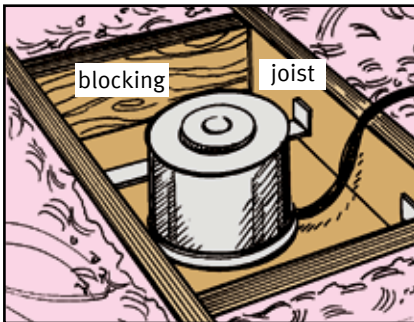

Figure 9 - Recessed light
- **Recessed lights.** Ask your local building code authority for acceptable ways to treat recessed lights. Failure to do so can cause a fire hazard (see Figure 9).